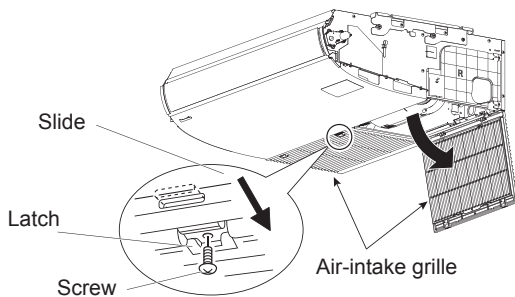

Fig. 3-2-1
- (1) Remove the screw, and slide the latch to open the air-intake grille. (Fig. 3-2-1)